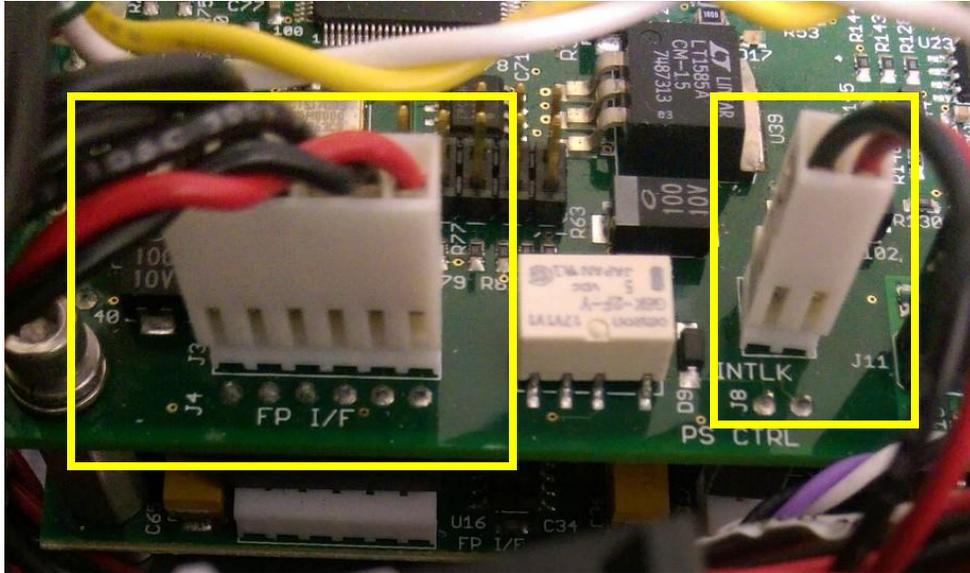

Figure 2: INTLK and FP I/F Connector Locations
9. Plug the FP I/F and INTLK connectors into the SC as shown in **Figure 2**.